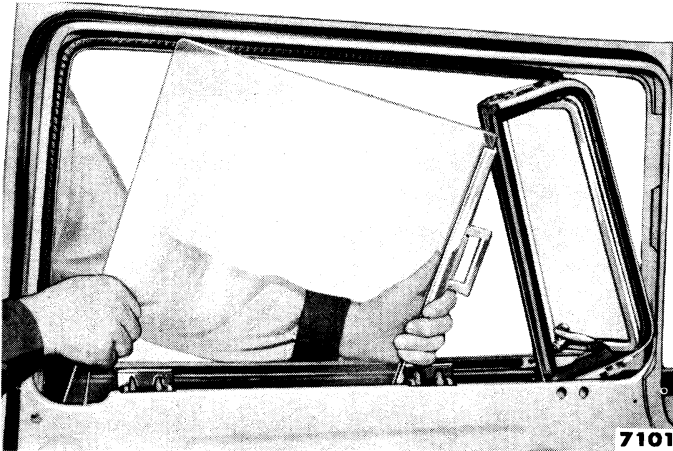

Fig. 18—Door Glass Replacement
(1) **REMOVAL.** Remove the garnish moulding and door trim panel. Remove the ventilator assembly retaining screws (except Convertible or Victoria models). Lower the door glass and disconnect the regulator arms from the rollers. Lift the glass to the closed position. Remove the lower window stop, and tilt the ventilator assembly inward so that the glass can be turned about 90 degrees as shown in fig. 18. With the glass in the position shown, tilt it slightly inward, and withdraw the assembly from the door panel. On Convertible and Victoria models, the glass can be drawn straight out after removing the two upper stops.